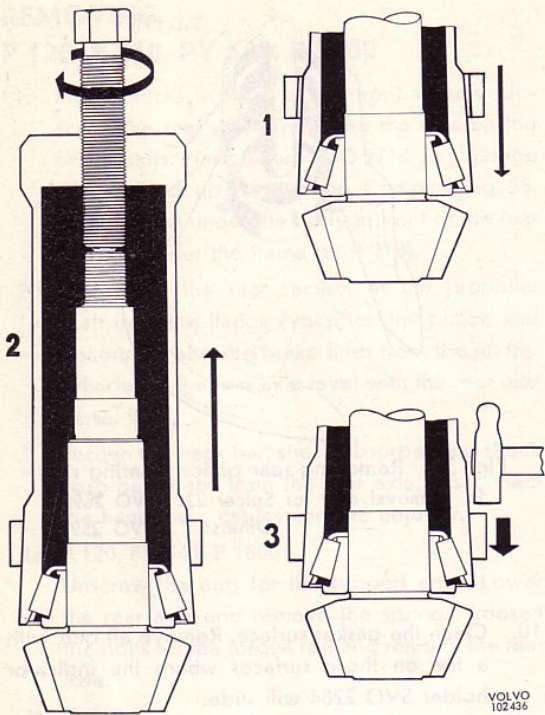

Fig. 32. Fitting puller
Slide the puller down over the rollers and press down the lock ring. Then pull up the puller by means of the screw until the rollers are flush against the edge of the inner race and also the edge of the puller. Tap the lock ring with a hammer. See also Fig. 32.
3. Remove the differential carrier bearings with puller SVO 2567 for the Spicer 23 final drive unit and SVO 2483 for the other types of final drives, see Fig. 34. Concerning fitting the puller, see also Fig. 32. Take care of the shims.